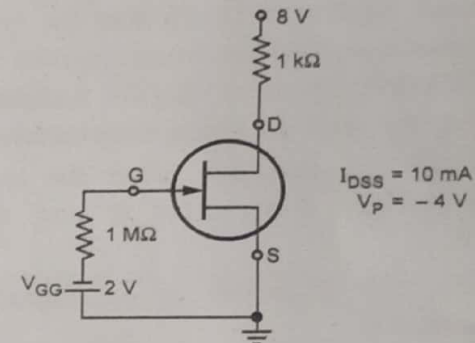

Fig. Q.16.1
Q.16 For the circuit shown in the Fig. Q.16.1 Calculate :